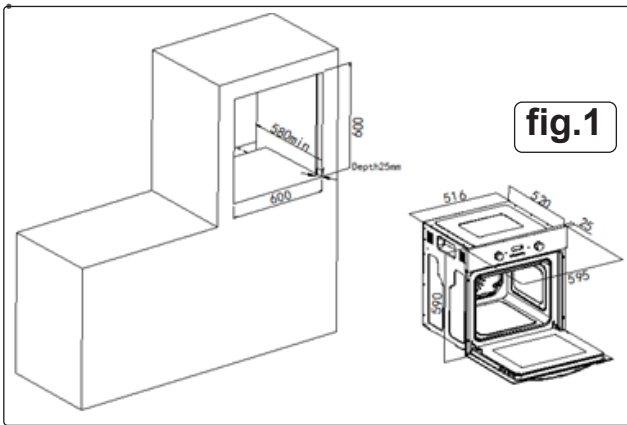

fig.1
### • POSITIONING THE APPLIANCE SEE FIG.1
- Ensure that the aperture that you will be fitting the oven into is of the size given in fig.1.